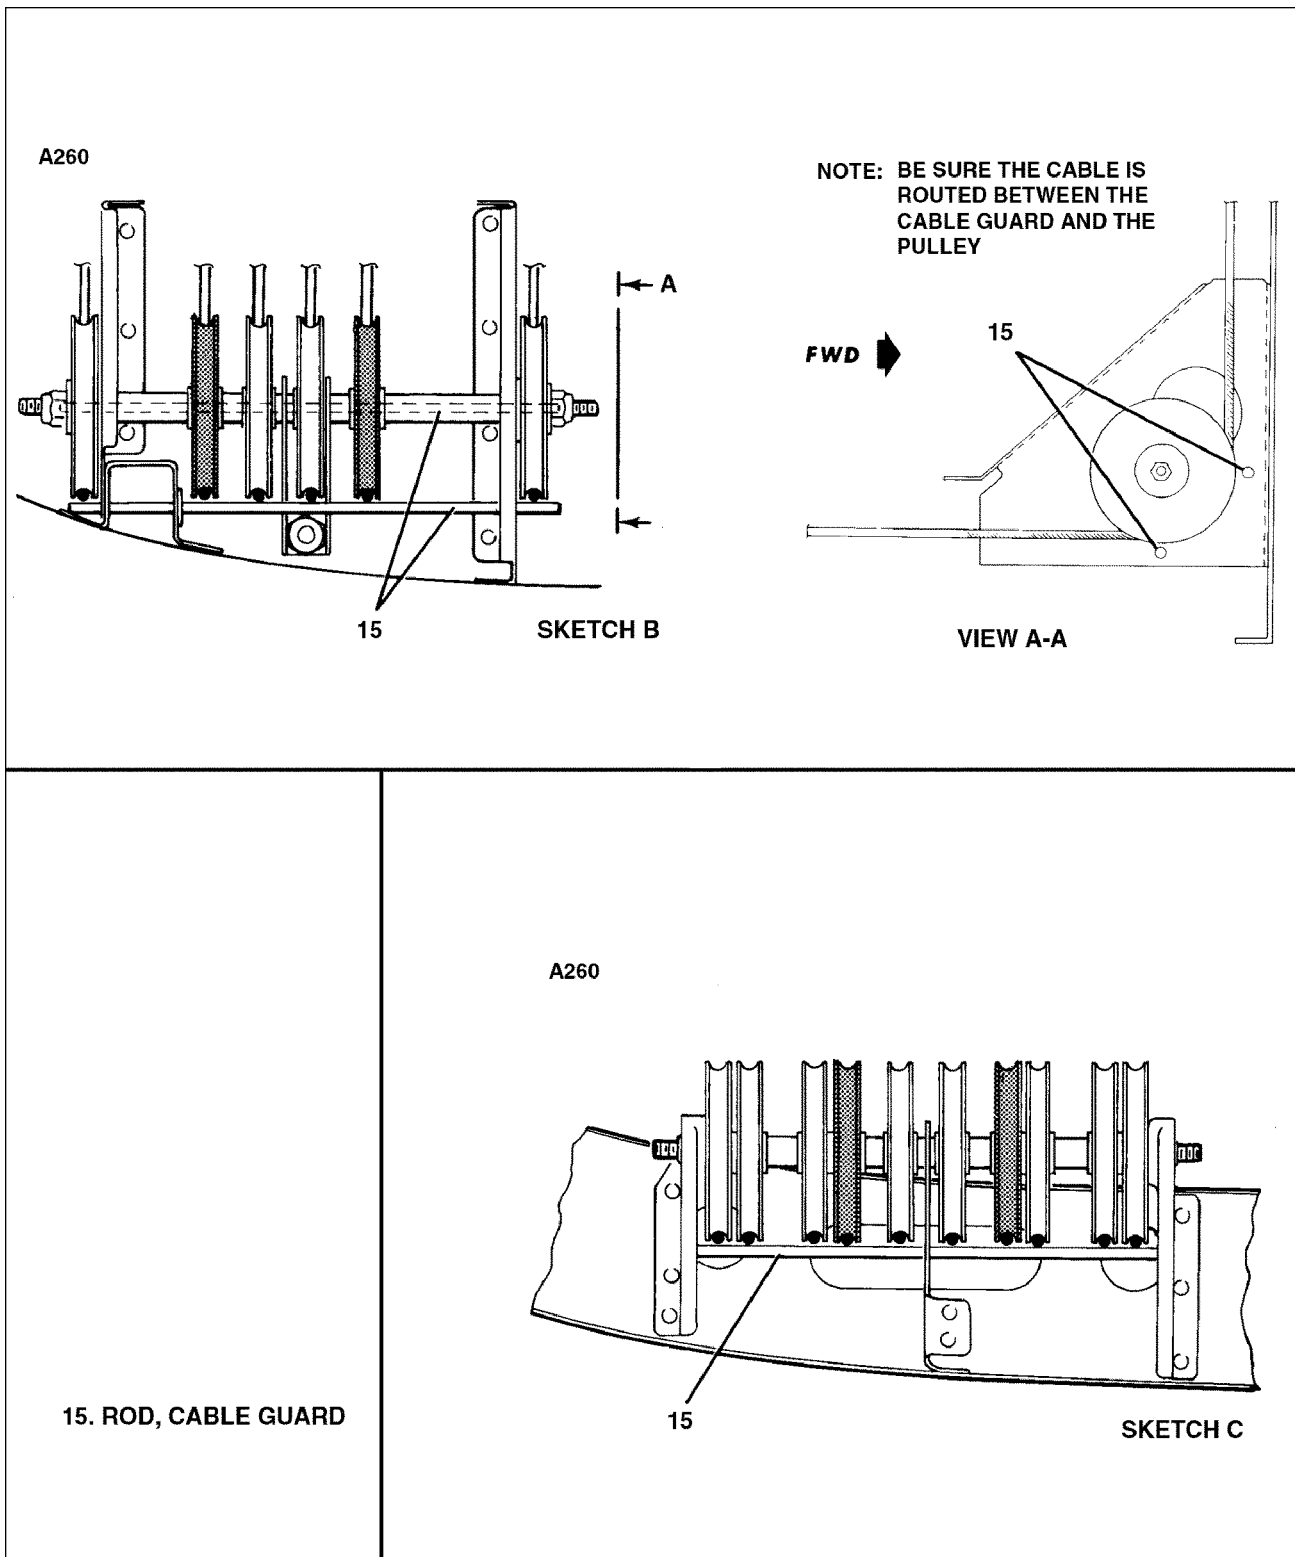

Figure 5-6. Aileron Control Installation (cont.)
5-9. Removal Of Aileron Control Cables. (Refer to Figure 5-6.)
5-10. **Installation Of Aileron Control Cable** (Refer to Figure 5-6.)
CAUTION: WHEN STRINGING THE CABLES ON THE FRONT PULLEY CLUSTER JUST AFT OF FIRE WALL, BE SURE TO THREAD CABLE IN THE PULLEY GROOVE AND NOT OVER TOP OF EITHER THE FRONT OR BOTTOM CABLE GUARDS. (REFER TO VIEW A-A OF FIGURE 5-6.)
- E. On PA-24-260 Serial No. 24-4783, 24-4804 and up, and PA-24-400 aircraft set the rudder-aileron interconnect cable turnbuckle (17) (Refer to Figure 5-6), so that the large spring (18) has .062 inch extension when the rudder and ailerons are neutral. On the PA-24-260 system the length of the left interconnect spring (19) may be increased up to a maximum extension of .38 to allow the aileron controls to spring back approximate equal amount from right and left stops with the rudder controls held in neutral position.